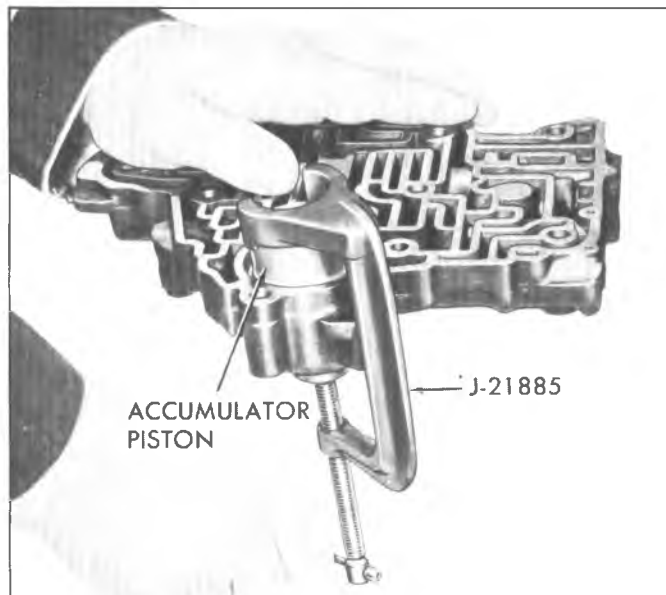

Fig. 53T--Installing Compressor Tool to Front Accumulator Piston
3. Install Special Tool J-21885, on accumulator piston and remove retaining ring (fig. 53T).